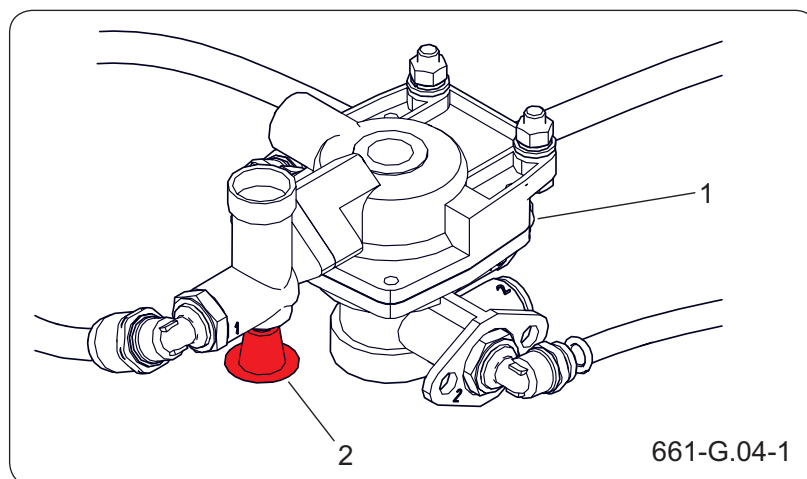

Figure 4.4 Control valve
The control valve - (Figure 4.4) has a button (2) that releases the brake, used when the trailer is uncoupled